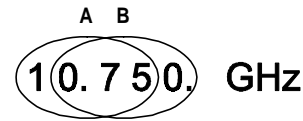

Figure 10. Local Oscillator frequency low and high-resolution display
**Local Oscillator frequency:** (see Figure 10) For example; if a current Local Oscillator frequency is 10.750 GHz, changing to Alt-2 Mode (ALT LED is on) and then pressing 2 displays the four most significant digits on the front panel (i.e., 10.75). At low resolution (A), pressing the up ↑ or down ↓ arrow button advances the frequency up or down in 10 MHz steps (i.e., 10.76, 10.77, and so on). Pressing and holding down the up ↑ or down ↓ arrow button will increase the step size further.
**Crossover frequency:** Because the Crossover and LO frequency ranges are similar, refer to the above example for changing the Crossover frequency using the high and low resolution front panel display (see Figure 10).